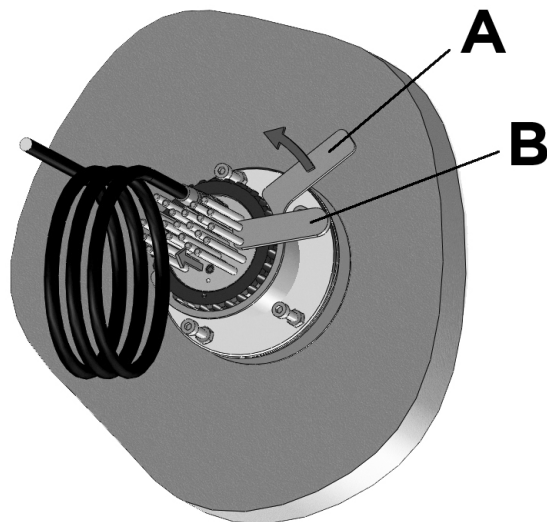

Fig.8.2
6. Slide the 3-hole tool down the rear cooling pins on the light as far as it will go (Fig.8.2).